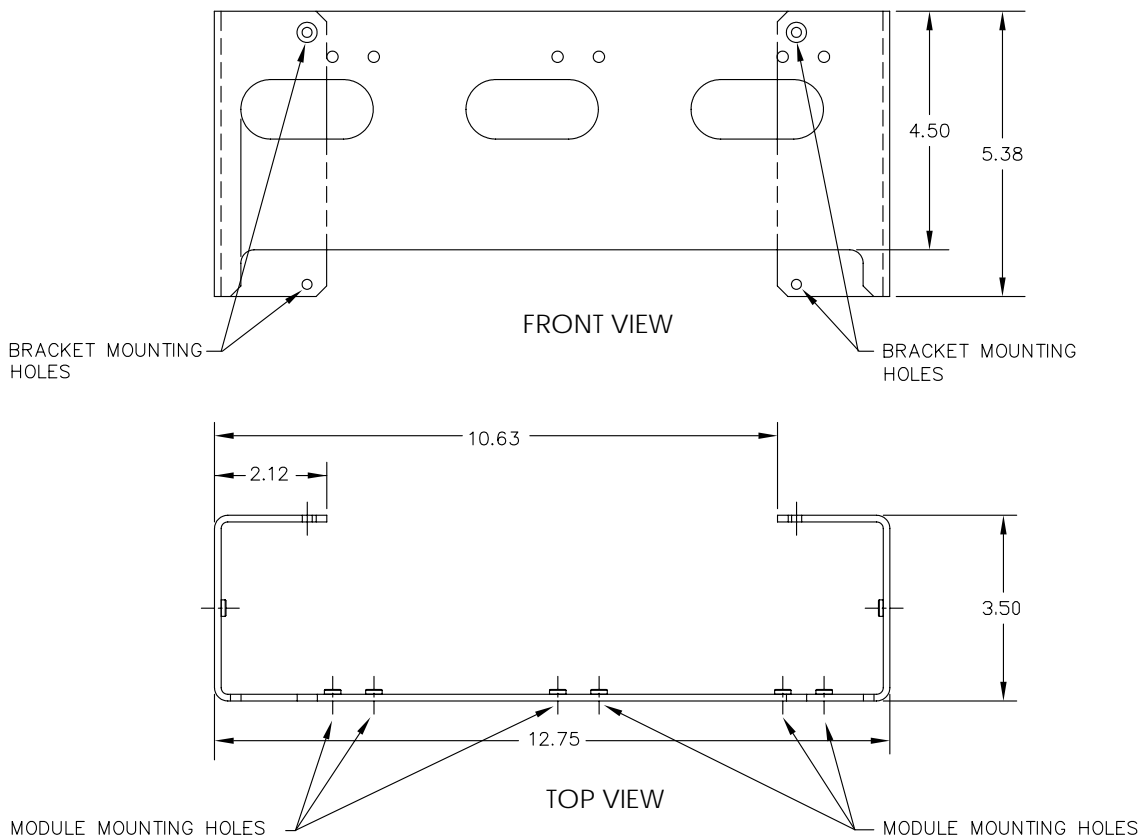

Figure 24 Mounting Bracket
- 1) Locate machined mounting bracket holes on bracket (see Figure 24) and back of Transmitter.